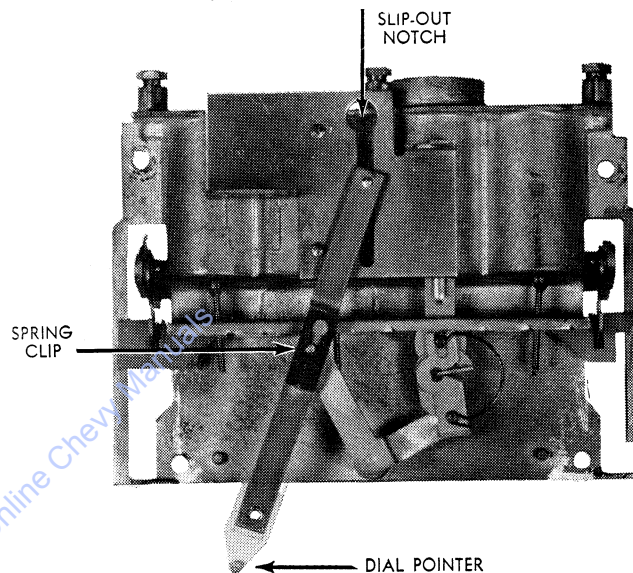

FIG. 7
### Replacement of Dial Pointer (Refer to Figure 7)
5. Move the dial pointer to the low end of the dial so that the pointer linkage may be slipped out of the guide slot in which it rides. (Figure 7).